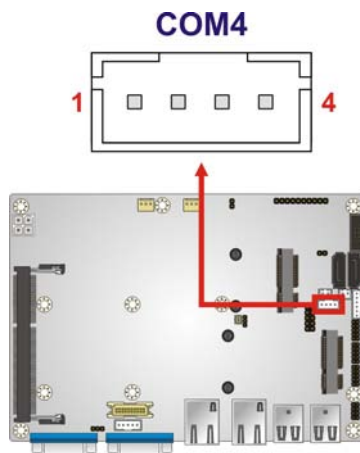

Figure 4-14: RS-422/485 Connector Location
- CN Location: See **Figure 4-14**